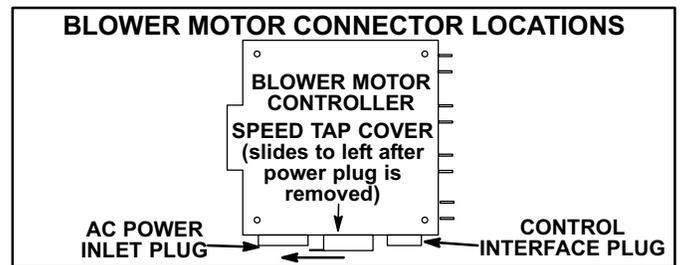

FIGURE 6
- 4 - Slide tap cover toward AC power plug. See figure 6.